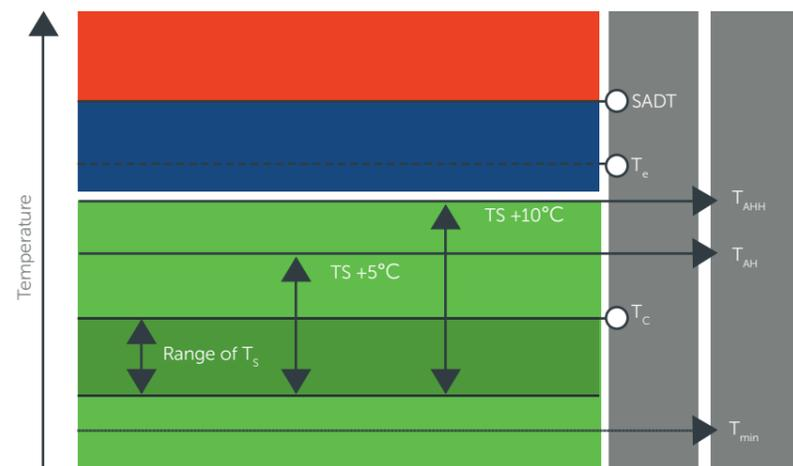

Figure 1: Schematic representation of all temperatures relevant for transport
A schematic representation of all relevant temperatures is given in Figure 1.
- Correct temperature setting of  $T_s$ ,  $T_{AHH}$ ,  $T_{AH}$ ,  $T_{min}$  (see Figure 1)